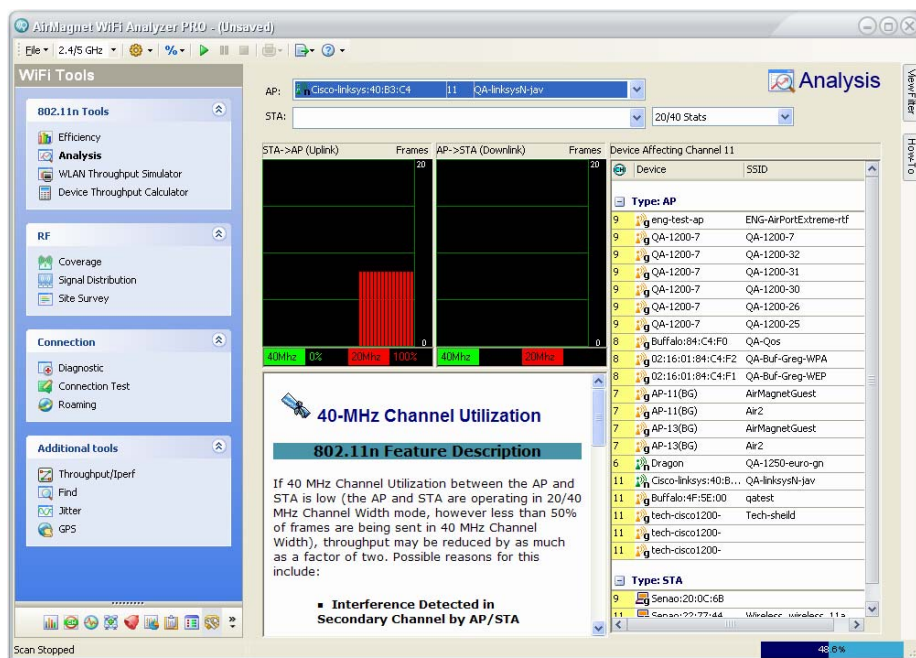

Figure 17-5: Analyzing 802.11n data
- 1) From the WiFi Tools screen, click Analysis in the 802.11n Tools section. See Figure 17-5.